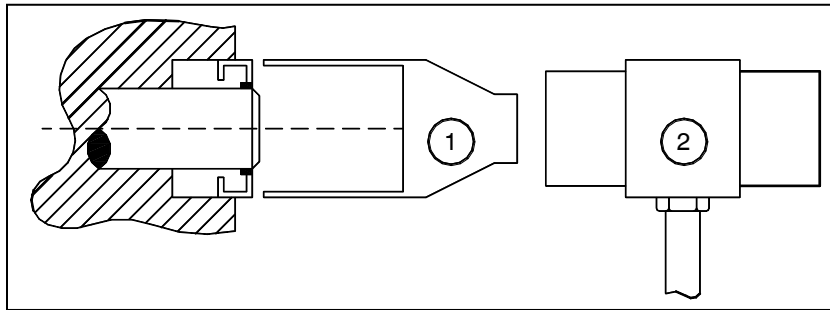

Figure 4.9b
- a. Use a soft-faced or dead-blow hammer or mallet against an installation tool when installing seals (see Figure 4.9b). This type of tool, like a block of wood, absorbs the shock wave created by the tool's impact. A hammer blow without any material to absorb the shock wave can dislodge the garter spring from its proper operating position. Once the spring is out of position, the seal will fail. The spring can even interfere with the action of the seal lip, or find its way into the bearing.